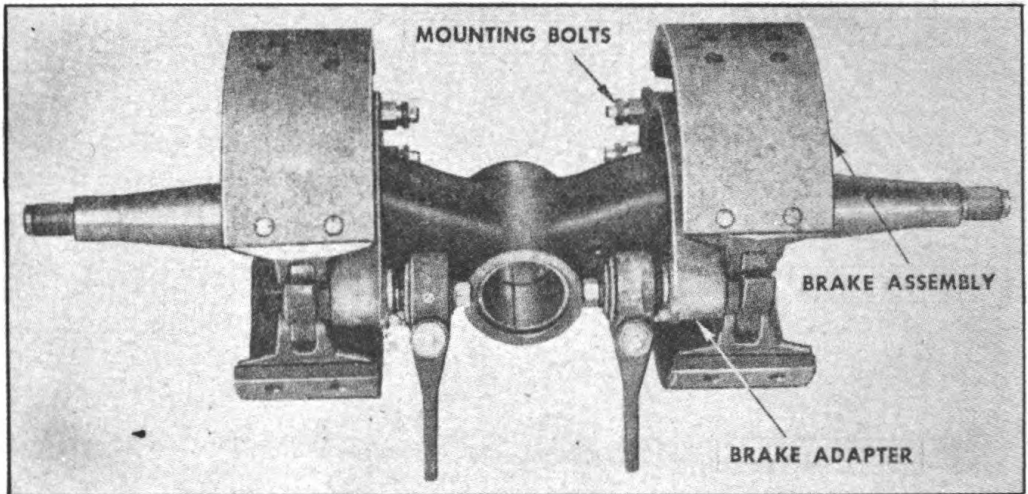

FIGURE 16. REMOVING BRAKE ASSEMBLY
(9) Remove the eight 1/2" mounting bolts holding the brake adapter to axle and pull the complete brake assembly off axle (Figure 16).